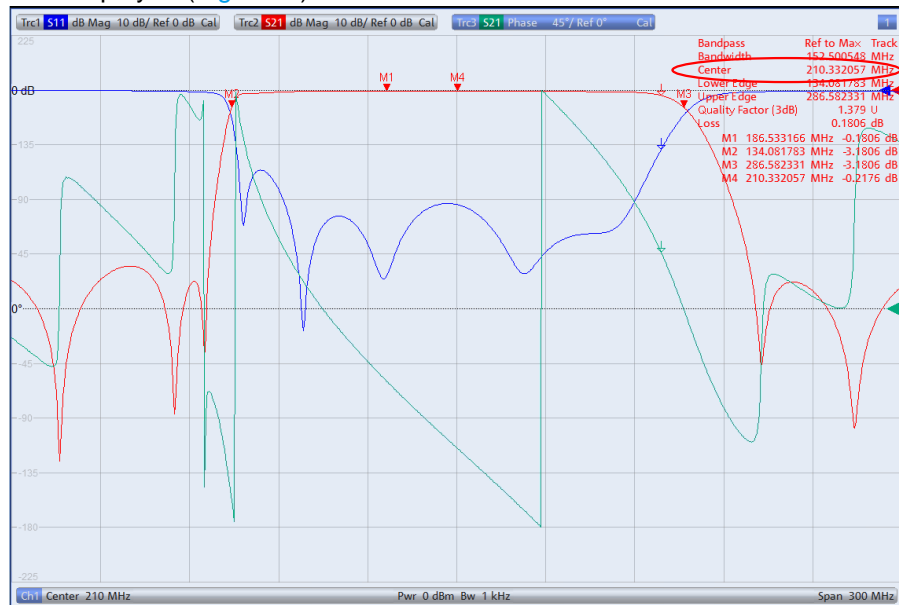

Fig. 2-33: Display of the absolute bandpass center frequency.
- Press the *SETUP* key and select *System Config...* Select the *Advanced* tab and disable *Geometric Calculation of Bandfilter Center*. In place of the geometric mean, the absolute center frequency of 210.33 MHz is now displayed (Fig. 2-33).